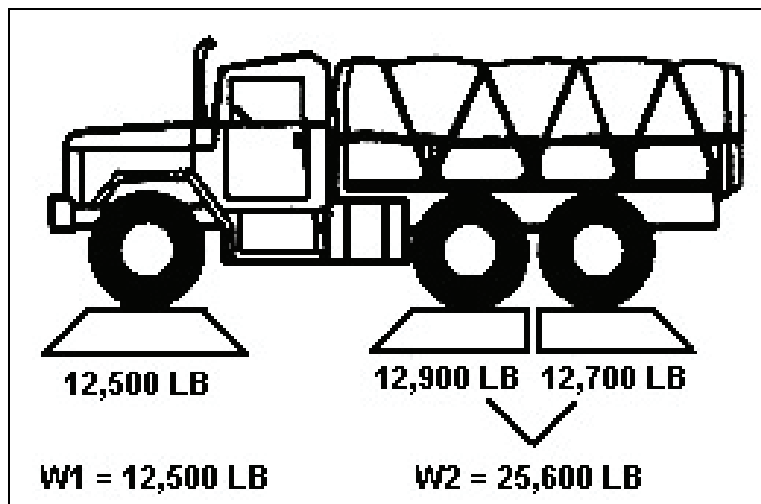

Figure 3-6. Axle Weights
2. Weigh axles (see Figure 3-6).